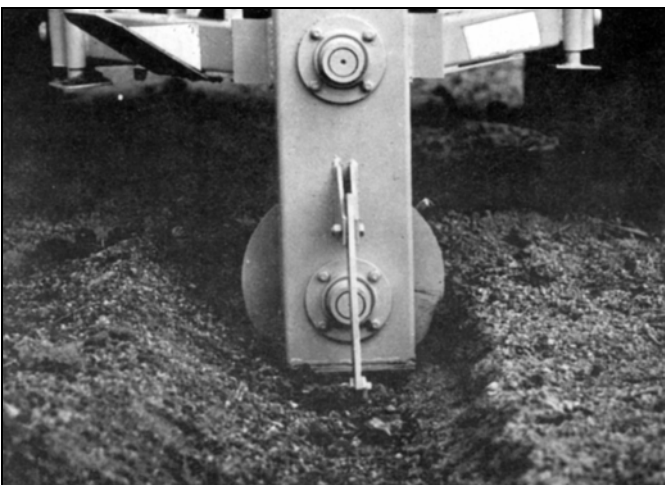

Figure 4-4: D4P Windrow
3. The deflector wing on the left side of your ditcher was mounted for maximum spreading of dirt in a neat windrow, close to the ditch, ready for easy back filling over irrigation pipe and similar uses (**See Figure 4-4.**)